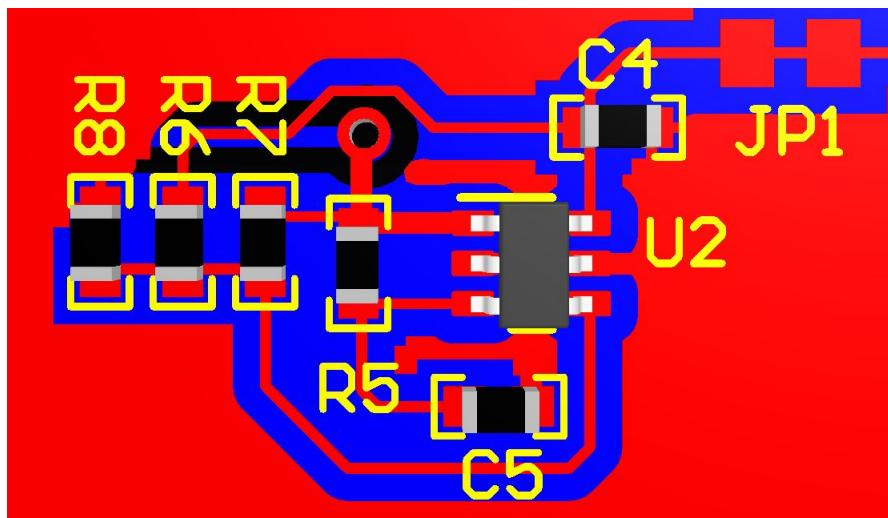

図 73. Oscillator Circuit Layout Example
- To minimize supply noise, place a decoupling capacitor (0.1- $\mu\text{F}$  ceramic, surface-mount capacitor) as close as possible to  $V_S$  as shown in 図 73.